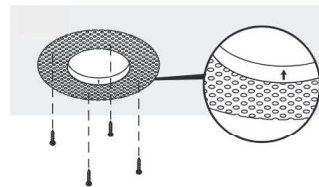

Figure 2
3. Install the plaster frame into the new cutout and use four screws to secure the plaster frame to the ceiling shown in figure 2.